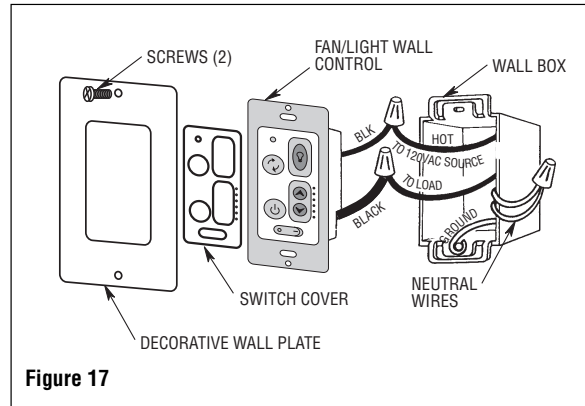

Figure 17
4. Connect one black wire of wall control to the “hot” wire. Securely connect wires with wire connectors supplied (Figure 17).
7. The wall control is supplied with a white, ivory, and almond color switch covers. Choose the finish that best suits your needs and snap the cover onto the wall control (Figure 17).
8. Install decorator wall plate using the two screws provided with wall plate. Leave wall control in “OFF” mode until fan installation is completed (Figure 17).